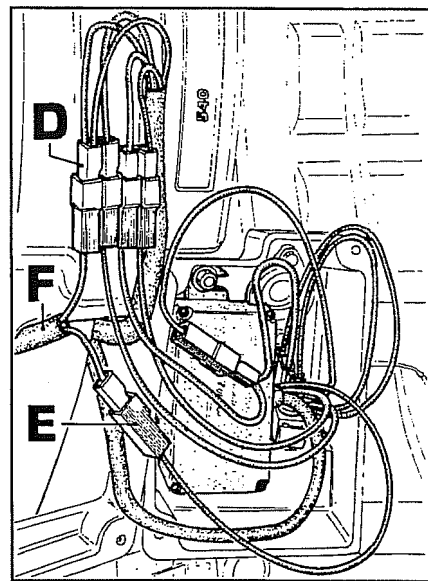

Fig. 41
5. Disconnect the double cable with black dots **D** Fig.41 from the brown/white wire **E** on the central unit and then connect cable **F** Fig.41 with a cable to the double cable with black dots and the other cable to the brown/white central unit cable.